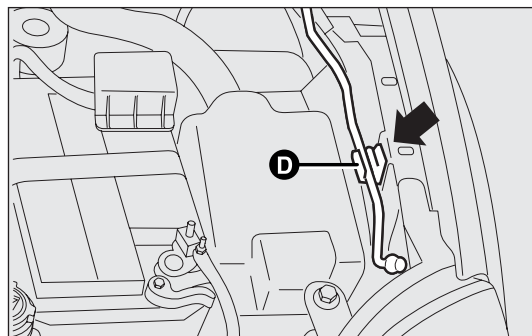
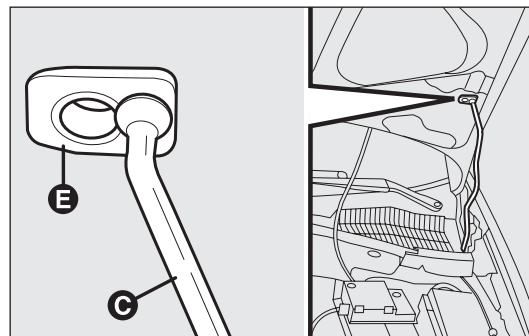

fig. 85
fig. 86
- ☐ lift the bonnet and, at the same time, release the bonnet support rod from its locking device D-fig. 85; then insert the end of the bonnet support rod C-fig. 86 into the hole E.
- ☐ hold the bonnet up with one hand and with the other remove the rod C-fig. 86 from the hole E and fit it back into its catch D-fig. 85;